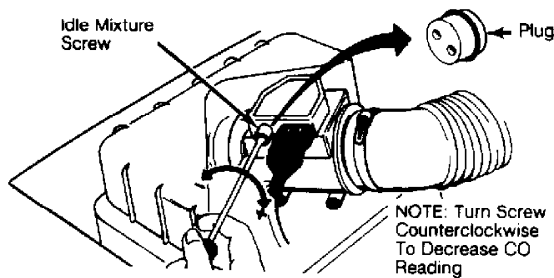

Fig. 2: Adjusting Idle Mixture (940)
3) Turning screw counterclockwise decreases CO level. See Fig. 2. Turning screw clockwise increases level. When adjustment is completed, reconnect oxygen sensor lead and remove test equipment. Seal idle mixture screw using a new plug.